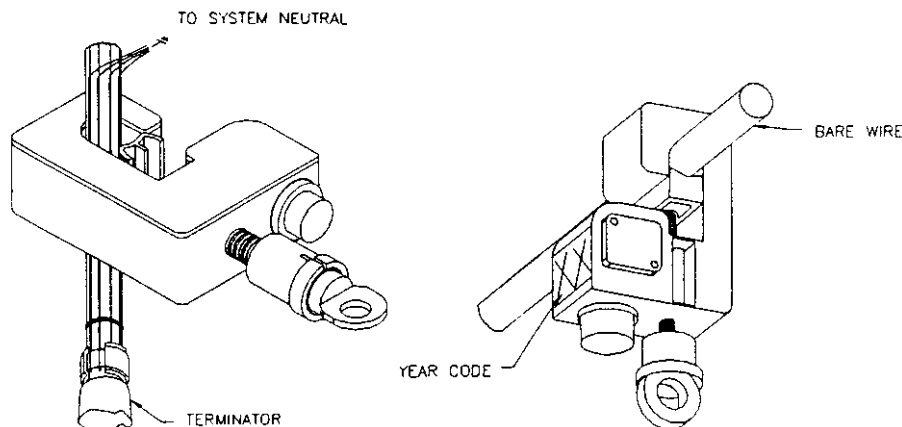

FIG. 1.1: PROPER METHOD OF INSTALLATION
1. Mount sensor coil on the conductor so that the housing shell is approximately perpendicular to the center line of the adjacent conductors, or Neutral. ["Eyeball accuracy is satisfactory"]. Back down the cable pin to accept the conductor size and use hotstick to mount the unit. Unit is secure when ratcheting begins. See Figure 1.1 and 1.2.